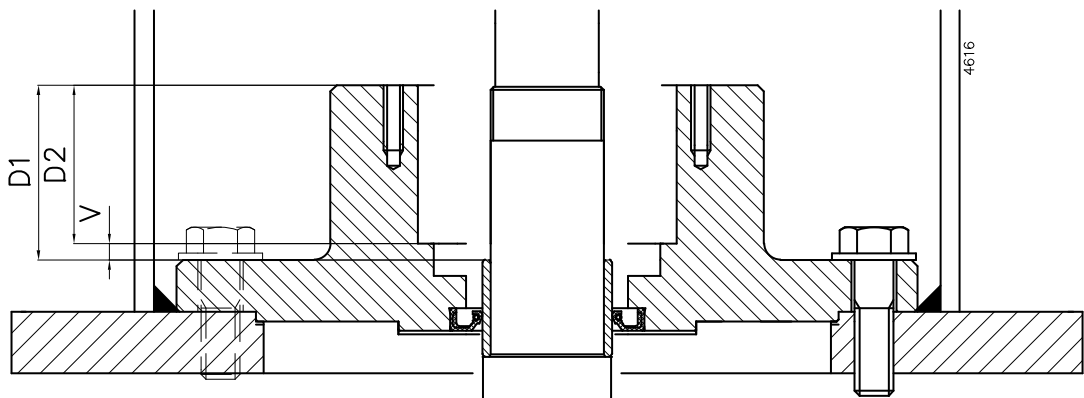

Figure 14: Determining the thickness of the shim rings.
- 2 Fit the O-ring (2320) in the shaft sleeve (2310) and mount the shaft sleeve, with the shoulder downward. The distance between the shaft sleeve and the lantern flange should be set according to distance Y, see figure 14. Secure the shaft sleeve with the set screws (2330).
- 4 The distance from the shaft sleeve shoulder to the rotating part of the mechanical seal should be according to distance X, see figure 14. Then lock the rotating part of the mechanical seal with the set screw.
- 3 See figure 14. Take a depth gauge and measure the distance **D1** from the top of the bearing house to the top of the inner ring and the distance **D2** from the top of the bearing house to the bottom of the ball bearing seat. Fill the difference **V** up with shimming rings (6050).